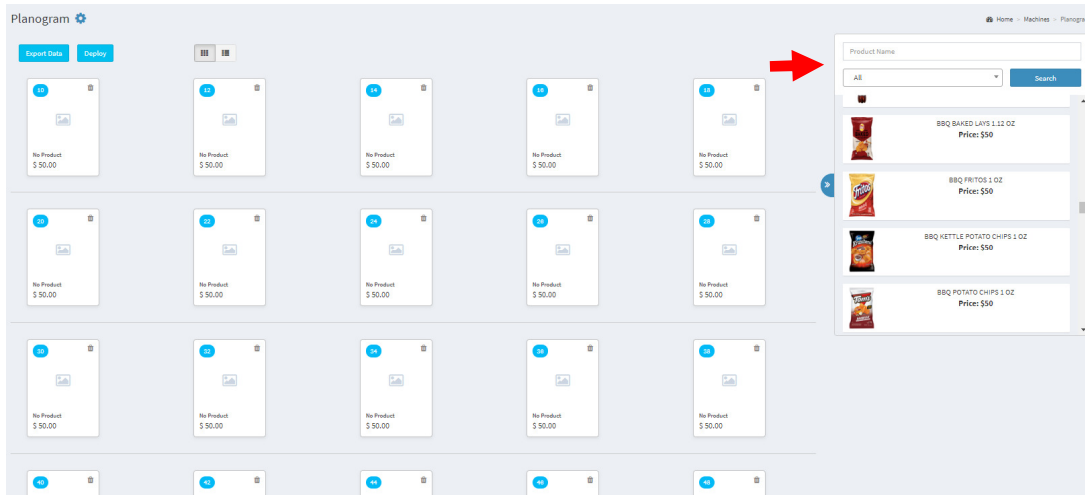
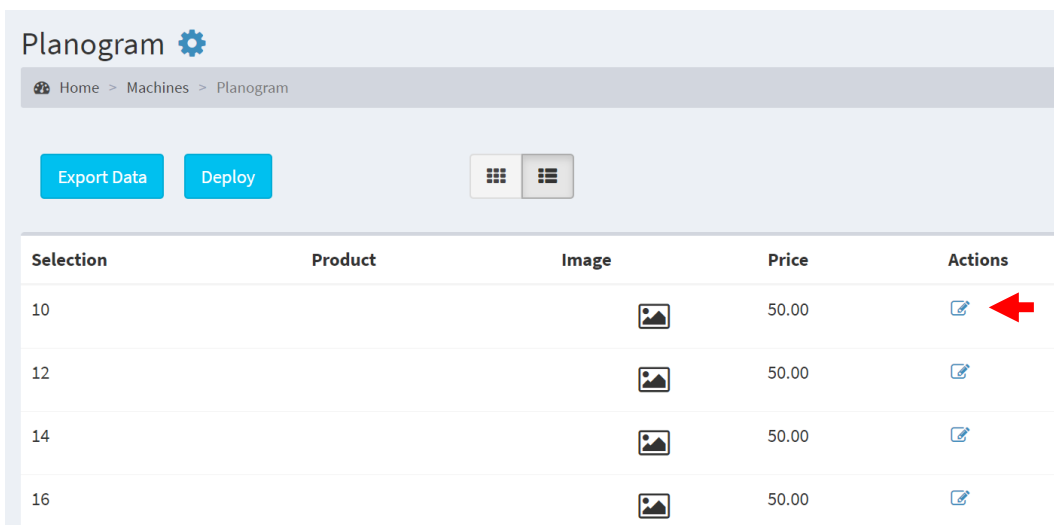

Figure 37
Figure 38
- You should see your planogram in one of two selectable views. The first view shows the selections as they would appear in the machine by row *(figure 37)* and by list as in *(figure 38)*.
- If you are in the row display view you can search for products via the product window provided to the right as in *figure 37*.
- If you are in list view you can click the **edit** icon in the Actions column to the right of the price (*figure 38*).